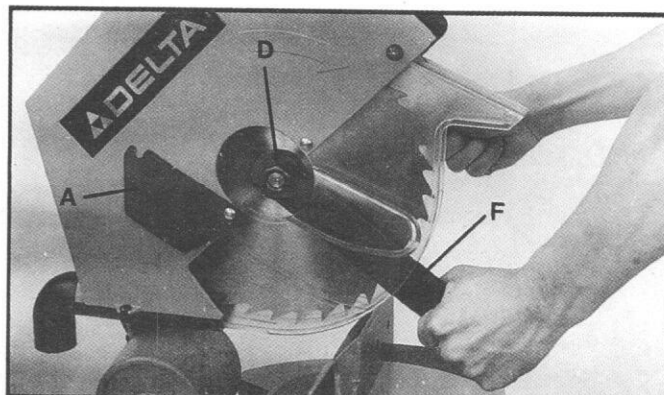

Fig. 8
5. To tighten arbor nut, insert hexagon wrench (E) Fig. 7, into hex hole in end of arbor shaft, to keep the shaft from turning, and tighten arbor nut (D) Fig. 8, using wrench (F).
6. **IMPORTANT: MAKE CERTAIN WRENCHES (E) FIG. 7 AND (F) FIG. 8, ARE REMOVED AND THAT ARBOR SHAFT ACCESS COVER (A) FIG. 8, IS PUT BACK INTO THE DOWN POSITION BEFORE TURNING ON THE POWER.**